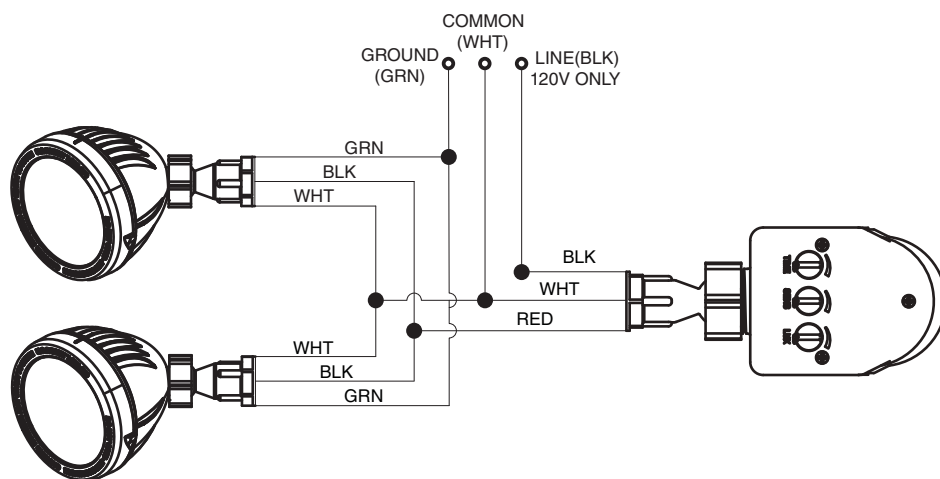

FIGURE 2
3. Connect wires according to Figure 2. Use wire nuts provided in the hardware bag.